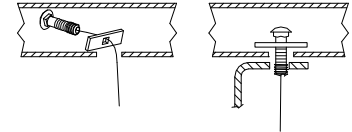

Figure 2.
①	Qty. (2)	Carriage Bolt 1/2-13 X 2.00	③	Qty. (2)	Conical Washer 1/2"
②	Qty. (2)	Spacer	④	Qty. (2)	Hex Nut 1/2-13
1. Feed the carriage bolt and large spacer thru slots on bottom of frame rails using the pull wires, as shown Figure 2.